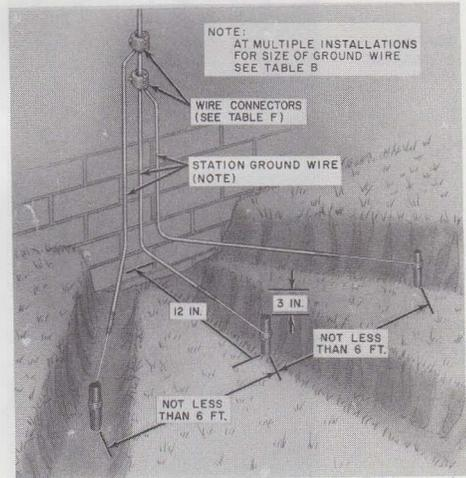

Fig. 75—Three Ground Rods
(a) If a power ground rod is not available, install a ground rod for each protector. Bond all protectors together. Select wire connectors from Table F. No more than three ground rods need be placed. Space ground rods at least 6 feet apart (Fig. 75).
9.08 Multiple station protectors, such as the 116- or 117-type, should *not* be connected to a single telephone ground rod unless the rod is bonded to the power system ground rod. If a power system ground rod is not available, a multiple station protector may be connected to an array of three telephone ground rods, spaced at least 6 feet apart, and bonded together with No. 6 ground wire (Fig. 75).